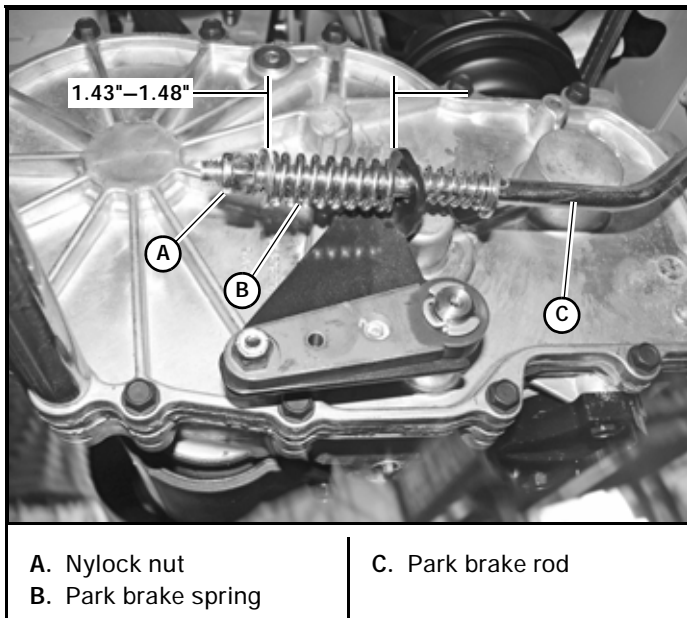

Figure 4-7
2. On one side measure the park brake spring. It should be compressed to 1.43"–1.48". If it is not, adjust the nylock nut until the proper spring compression is achieved. Figure 4-7